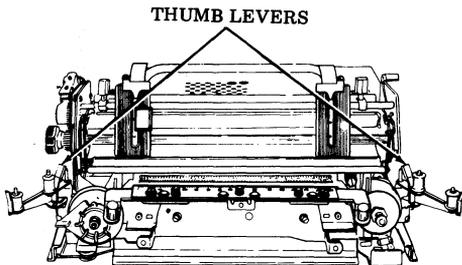

Fig. 37—Ribbon Guides Thumb Levers
- (a) Release thumb levers on left and right ribbon guide brackets allowing guides to spring open (Fig. 37).